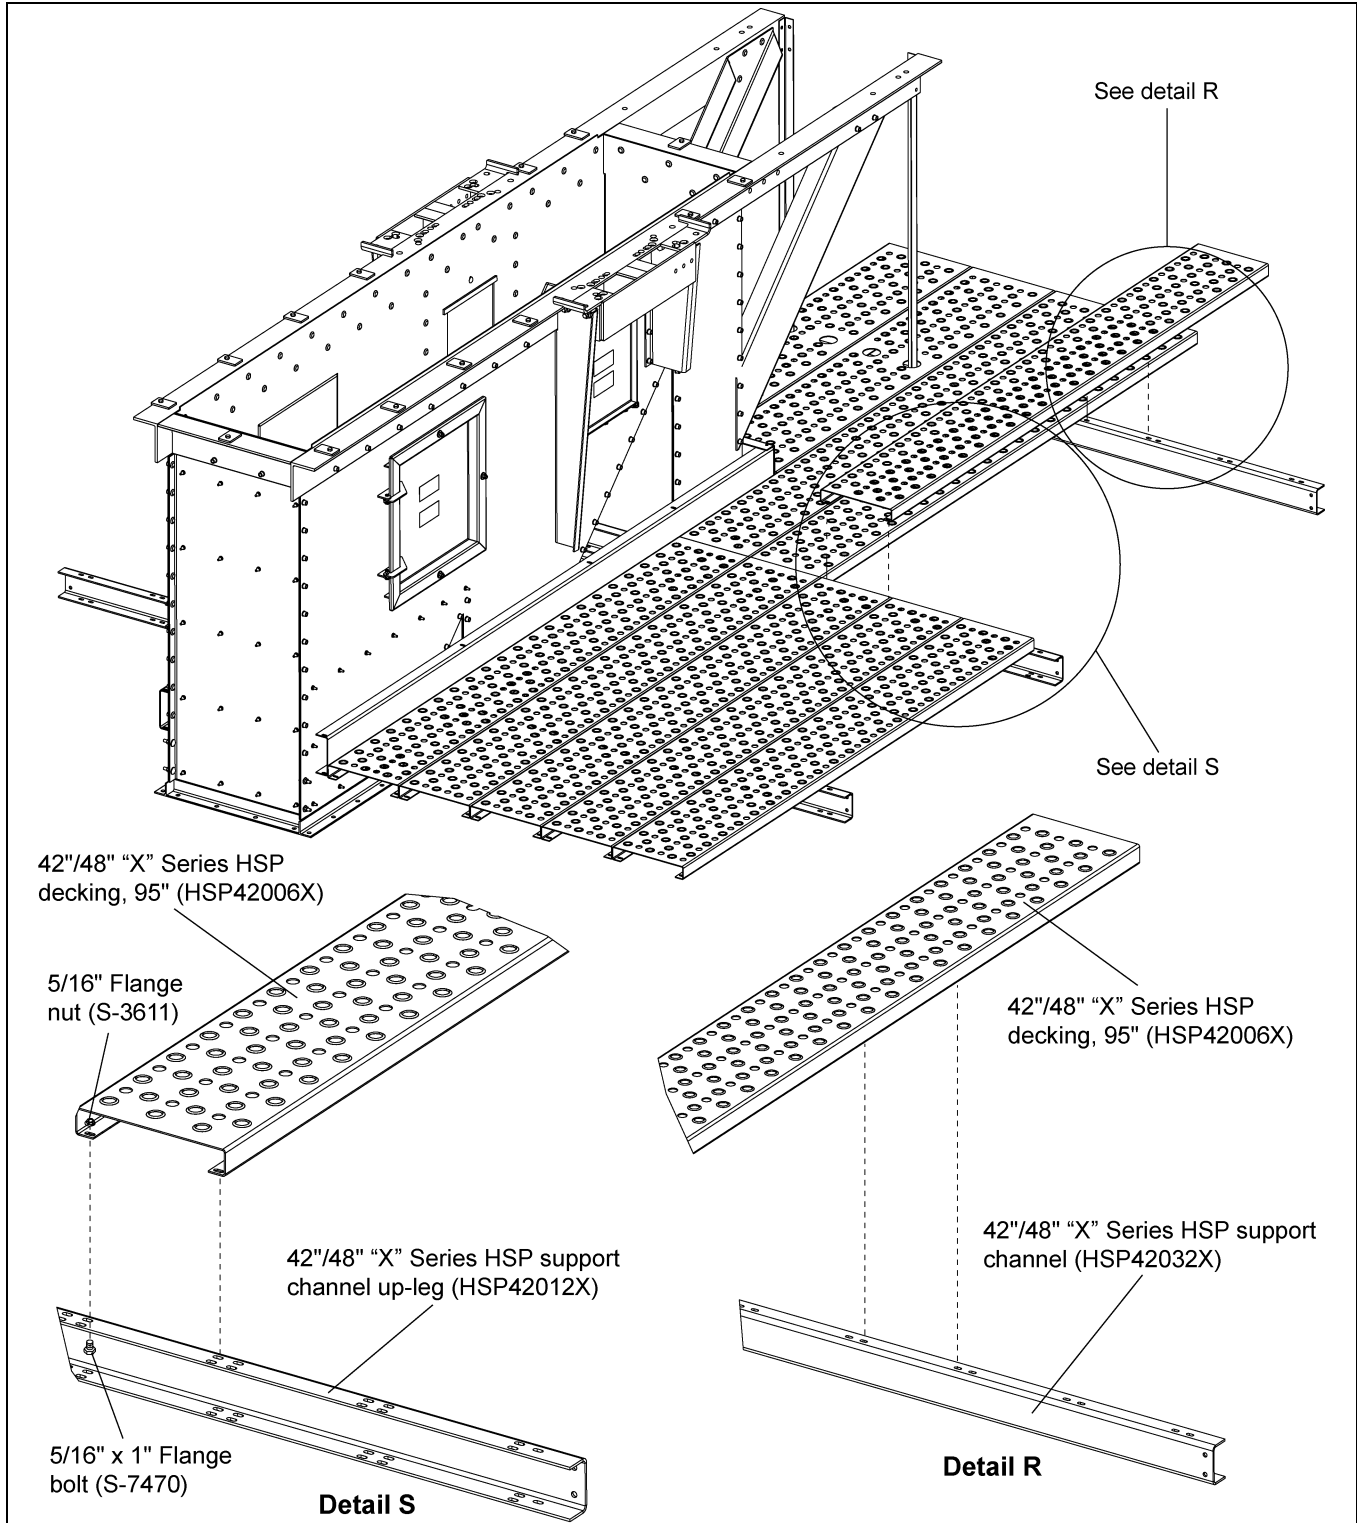

Figure 8I
1. Install five (5) planks of decking (HSP42006X) on the drive side at the up-leg end. **NOTE:** Be sure to install this section of decking by starting at the inside next to the toe board and working outward.
2. Fasten the decking to the support channels (HSP42012X and HSP4248HS) using 5/16" x 1" flange bolts (S-7470) and 5/16" flange nuts (S-3611). (See Figure 8I.)